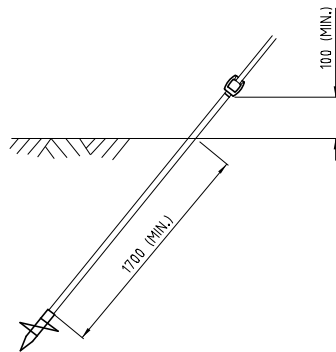

FIG. 3
- 5. THE ANCHOR ROD IS TO BE INSTALLED TO A MINIMUM DEPTH OF 1700mm WITH A MINIMUM HEIGHT OF THE THIMBLE EYE NUT ABOVE GROUND LEVEL OF 100mm.(FIG.3)